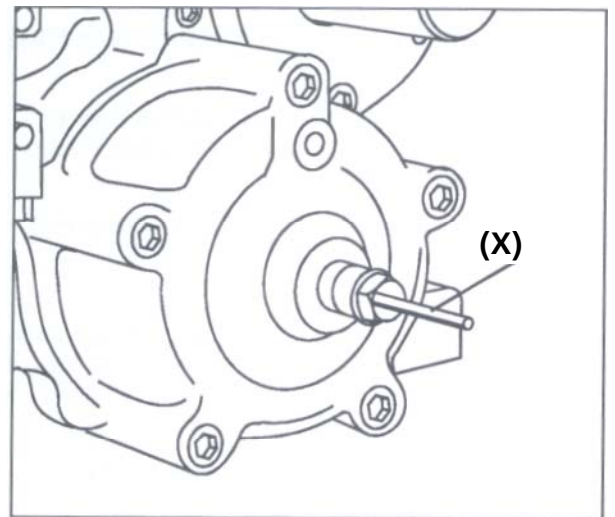

Figure 4: View of the pressure pipe (X) after removal of the position sensor (123)
The pressure pipe (X) can be seen Figure 4.
- a) Removing the display system from the cover (90):
- Loosen the hexagon socket head attachment screw on the lower side of the rectangular casing from the position sensor (123) and remove the position sensor. The pressure pipe (X) can now be seen (according to figure 4).
- **Adjusting the Vi slide to the Vi max. position:** Unthread the screw plug (91). Place a M6x150 threaded rod through the opening and thread it into the Vi piston (98). Pull the Vi piston to the limit stop of the cover (90) by means of the rod. Remove the threaded rod.
- Remove the position sensor rod (125) from the cover (90) by hand only until the tension spring support (121) can be seen. Turn it approx. 90° with the other hand and unhook the outer tension spring (93) from the hook of the position sensor rod (125). The outer tension spring and tension spring support remain assembled.
- Allow the position sensor rod to spring back, unhook by turning it out of the inner tension spring (92) and then remove it.
- b) Remove the cover (90).
- c) Remove the locking ring (94) and pull off the piston (98) by means of two M6x150 threaded rods.